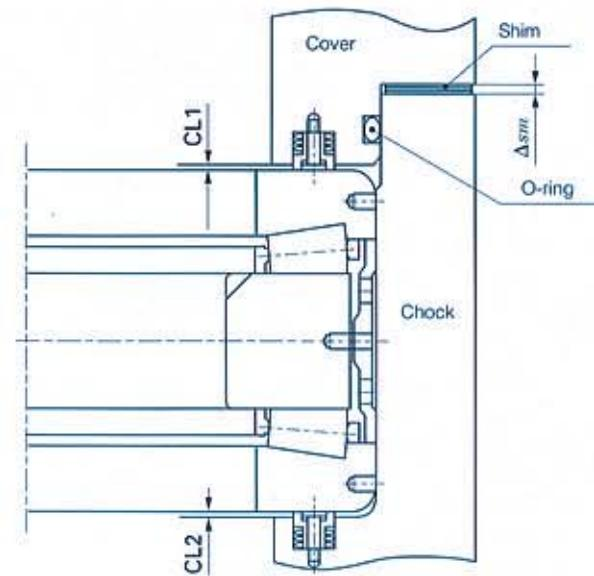

Fig. 3.45 Assembly with preload springs
- (7) Remove the lid and install the shim of set thickness (Δ_{sm}) on the lid.
- (8) Using a jig, remove the bearing from the chock, install the preload spring, and reassemble the bearing into the chock.
- (9) Mount the O-ring and spring to the lid and install the lid on the chock.
- (10) Tighten the lid bolts with an even torque.
- (11) After assembly, confirm that $CL1 + CL2 = 0.5\text{mm}$. (Fig. 3.45)